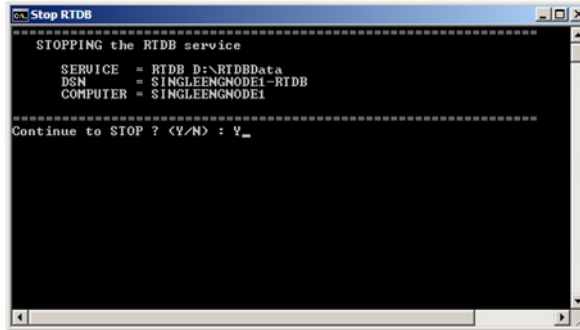

Figure 99. Confirmation Prompt for stopping RTDB
3. Double-click the **Stop RTDB** batch file and type ‘Y’ in the confirmation prompt as shown in Figure 99 to stop the main real time database service in 800xA History Embedded Data Collector Node.